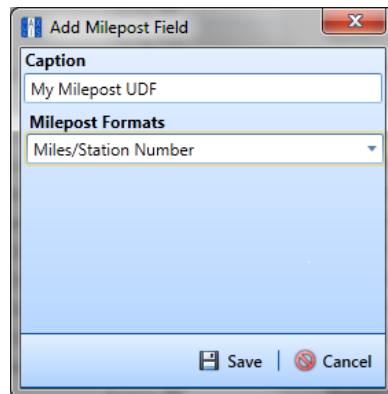

Figure 3-37. Add Milepost Field
- 4 Click  **Milepost** in the toolbar to open the *Add Milepost Field* dialog box (Figure 3-37).